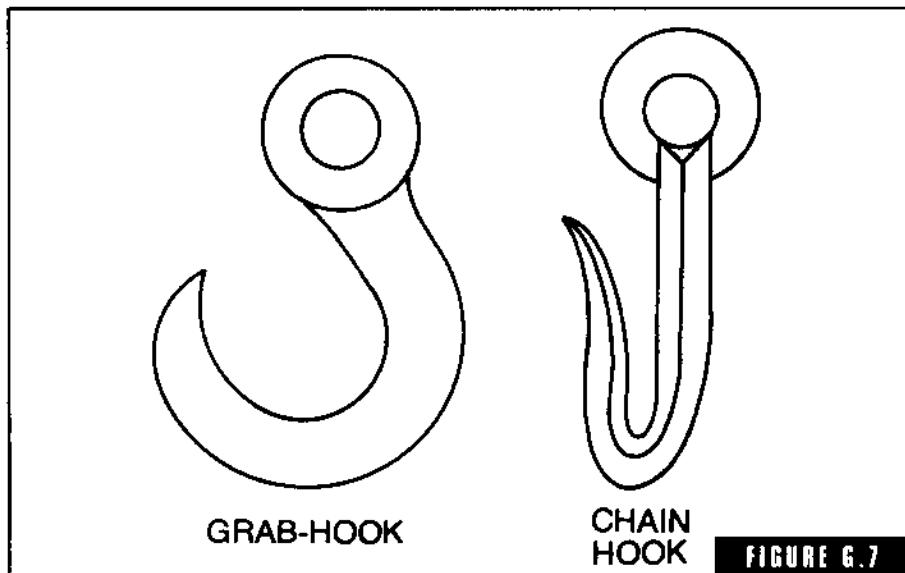

FIGURE G.7
**grab hook** A grab hook differs from a sling chain hook in shape (Fig. G-7). The opening is much wider so that it can be hooked into the rollover pad eyes on large flasks. Also used to lift large cores.